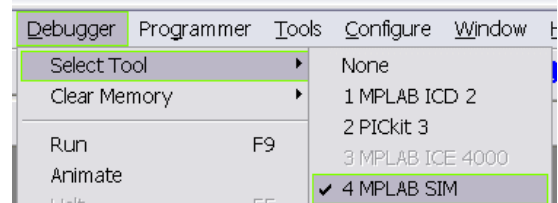

Figure 6: Select simulator to start with.
6. Before trying to get the physical hardware to work, it’s a good idea to try the simulator, which makes it much easier to test and diagnose regular C problems (once it comes to using peripherals properly, you don’t have much option besides using the physical chip). Select the simulator using Debugger → Select Tool → MPLAB Sim as shown in Figure 6.